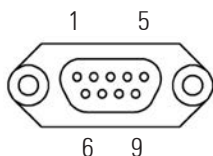

Fig. 22. DB9 connector (CN12) for RS-232 in BM491*.
- Also, in those installations with the Digital I/O option (8), there is a DB9 connector (CN12) in the BM491* board (see figure 22).